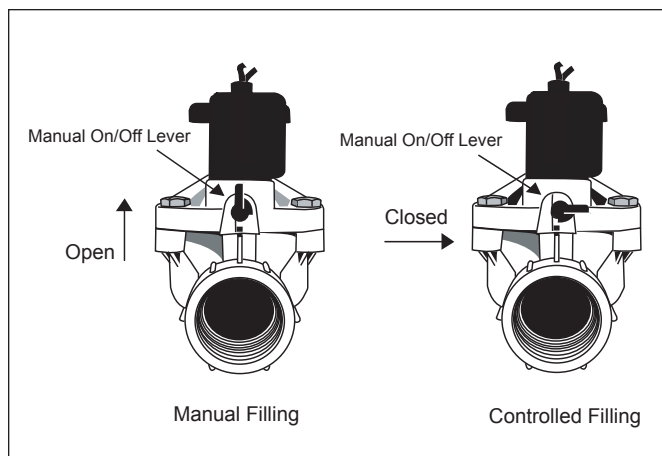

Figure 11. Manual Valve Lever
4. Put the manual ON/OFF lever, located just below the solenoid, in the horizontal (closed) position, so it will only open with the electronic water Levolor. See Figure 11.
There is a manual ON/OFF lever located just below the solenoid. If you are having a problem with the system and want to override the electronic water Levolor®, you can manually open the valve by putting the lever in the up position ↑ (12 o'clock). See Figure 11.